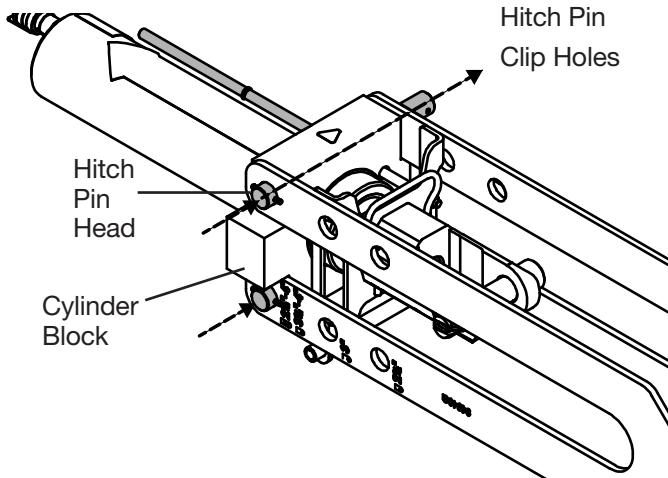

Figure 6
8. Insert the cylinder block hitch from the side where the cylinder block extends out past the connecting forks.(Fig. 6)